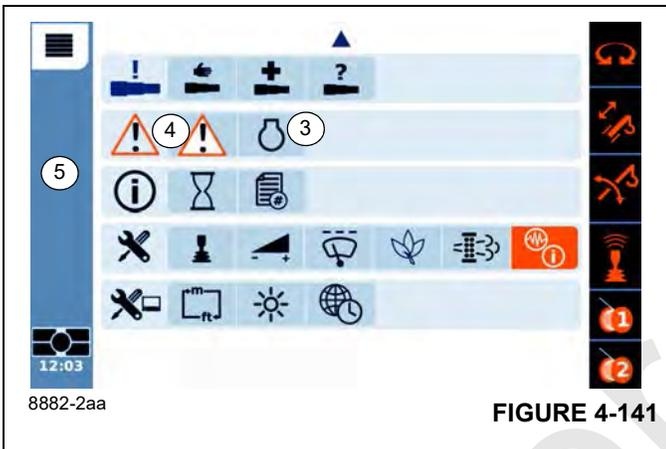

FIGURE 4-141
Error messages will appear on the left side of the display (5), (Figure 4-141) with a red border around the icon. The icon will disappear when the error is resolved:
When an error message appears, go to error message menu on the second page of the main menu and select the appropriate sub menu based on the error being displayed. Select symbol (Figure 4-141) and confirm: